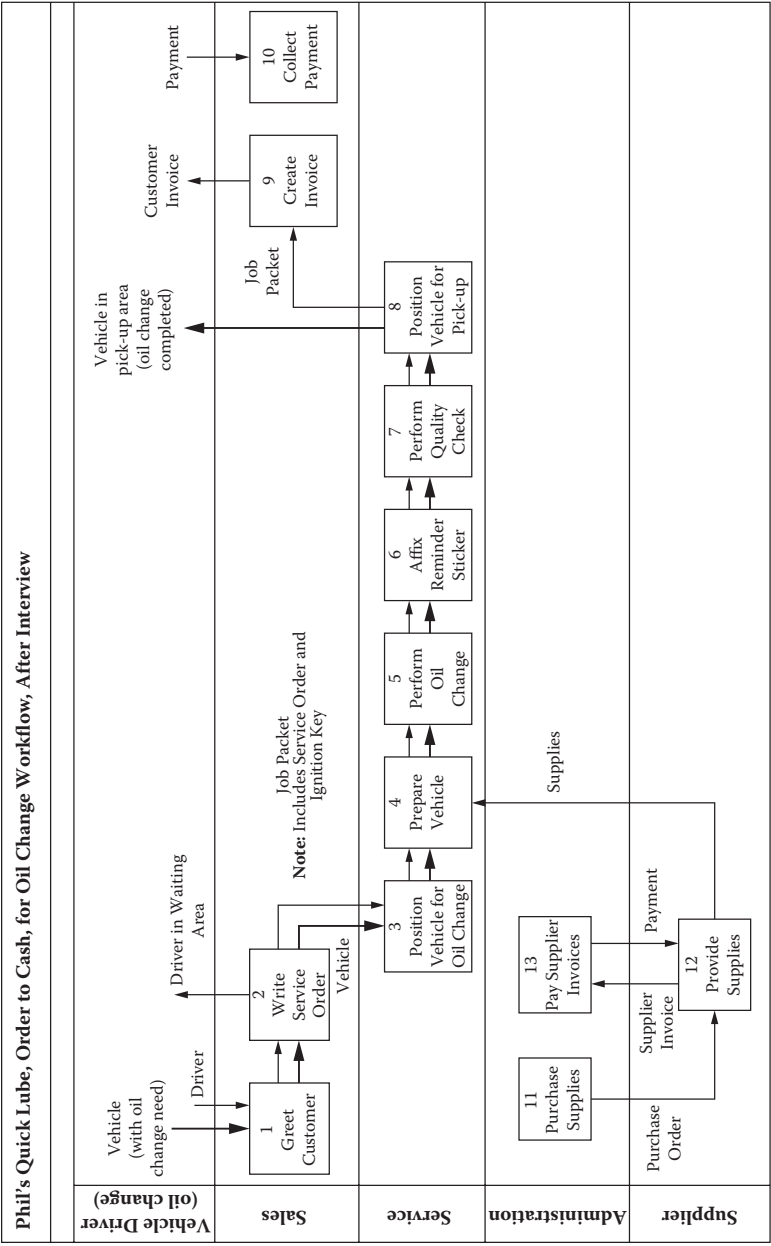

Figure A.17 Cross-functional process map of Phil's Quick Lube interview version.
7. Use application software to document the map. Take a digital photo of the map on the wall (Figure A.17 and Figure A.18).